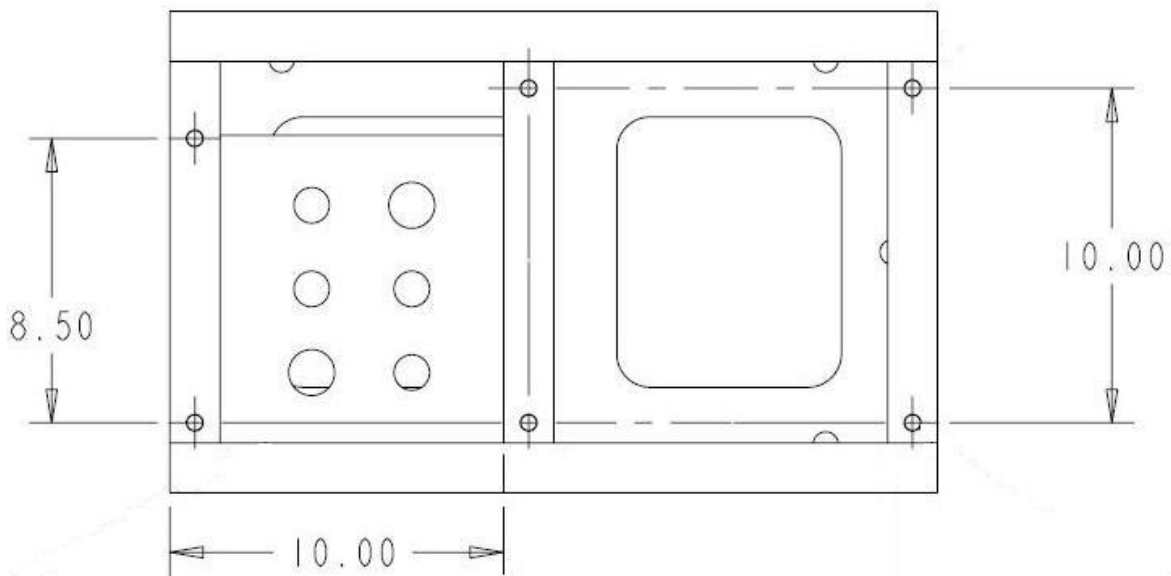

Figure 4. Top Plate of Base Frame
The frame includes (2) surface plates, as shown in Figure 4 below, to accommodate different mounting heights. When installing the base on a curb, the frame should be set so that the upper mounting plate is flush with the concrete surface. When no curb is used (standard height base), the frame should be set so that the upper mounting plate is flush with the concrete surface.